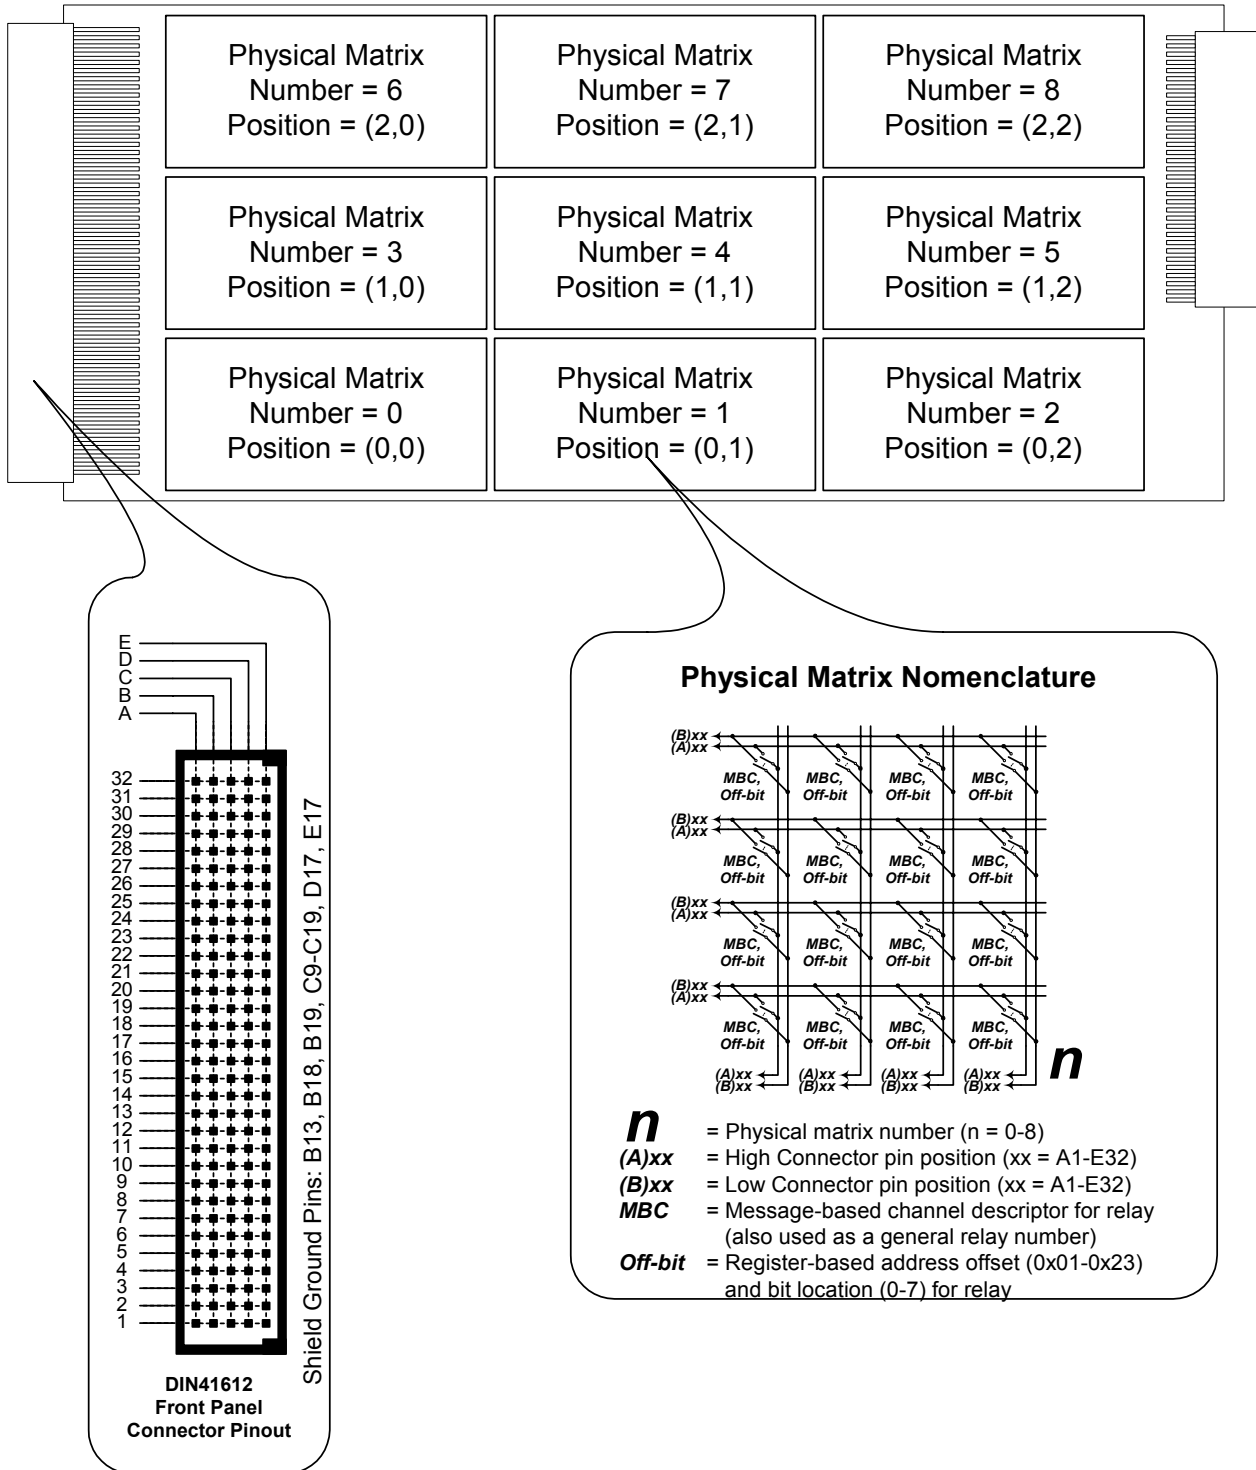
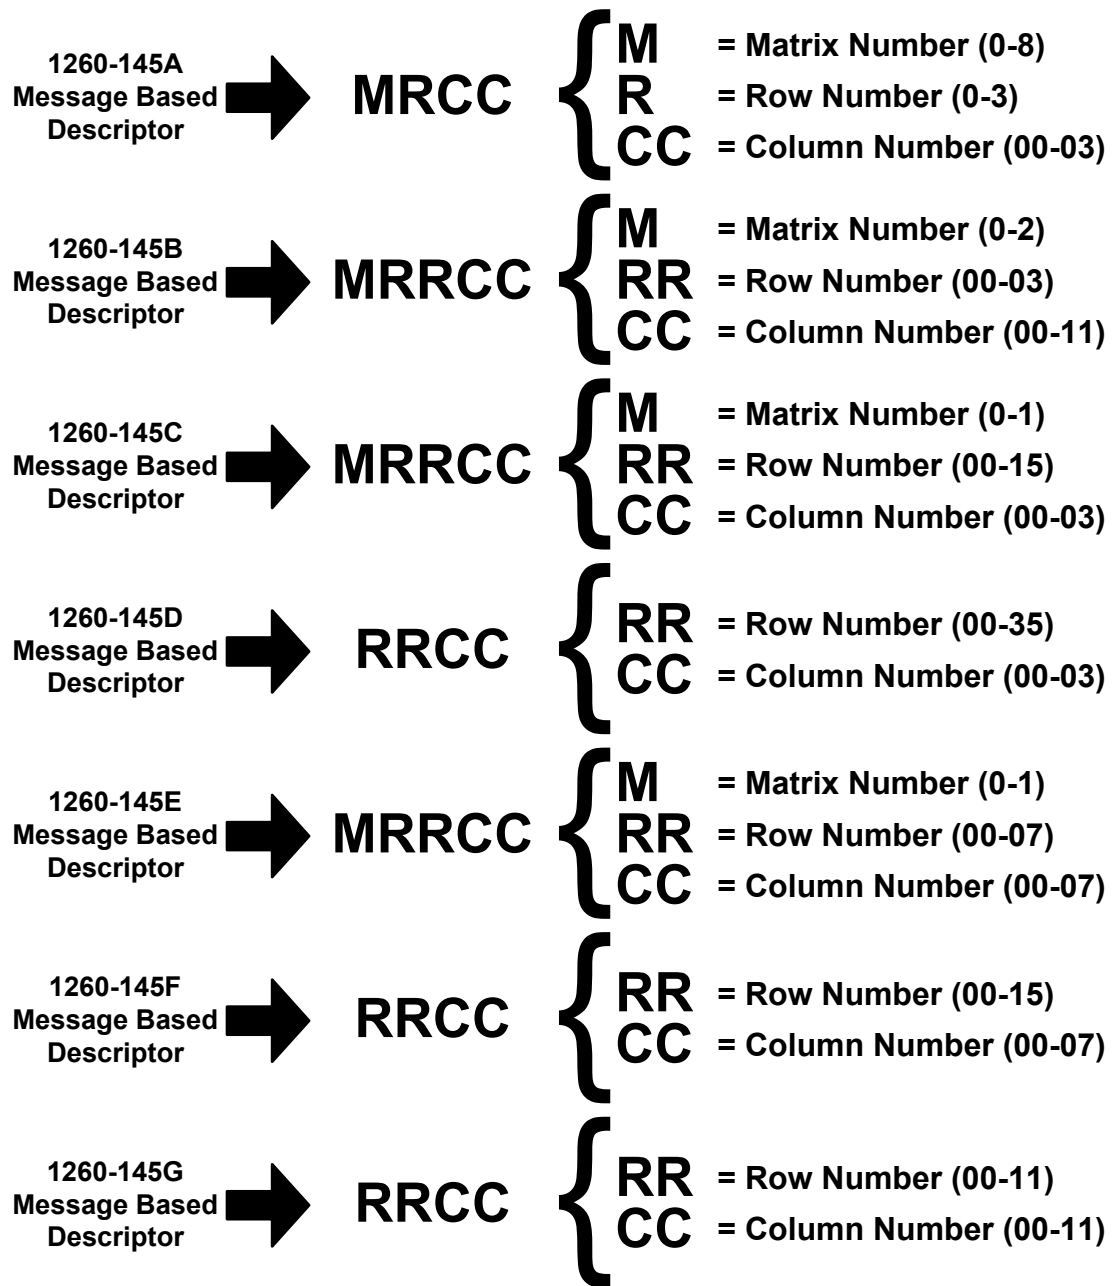
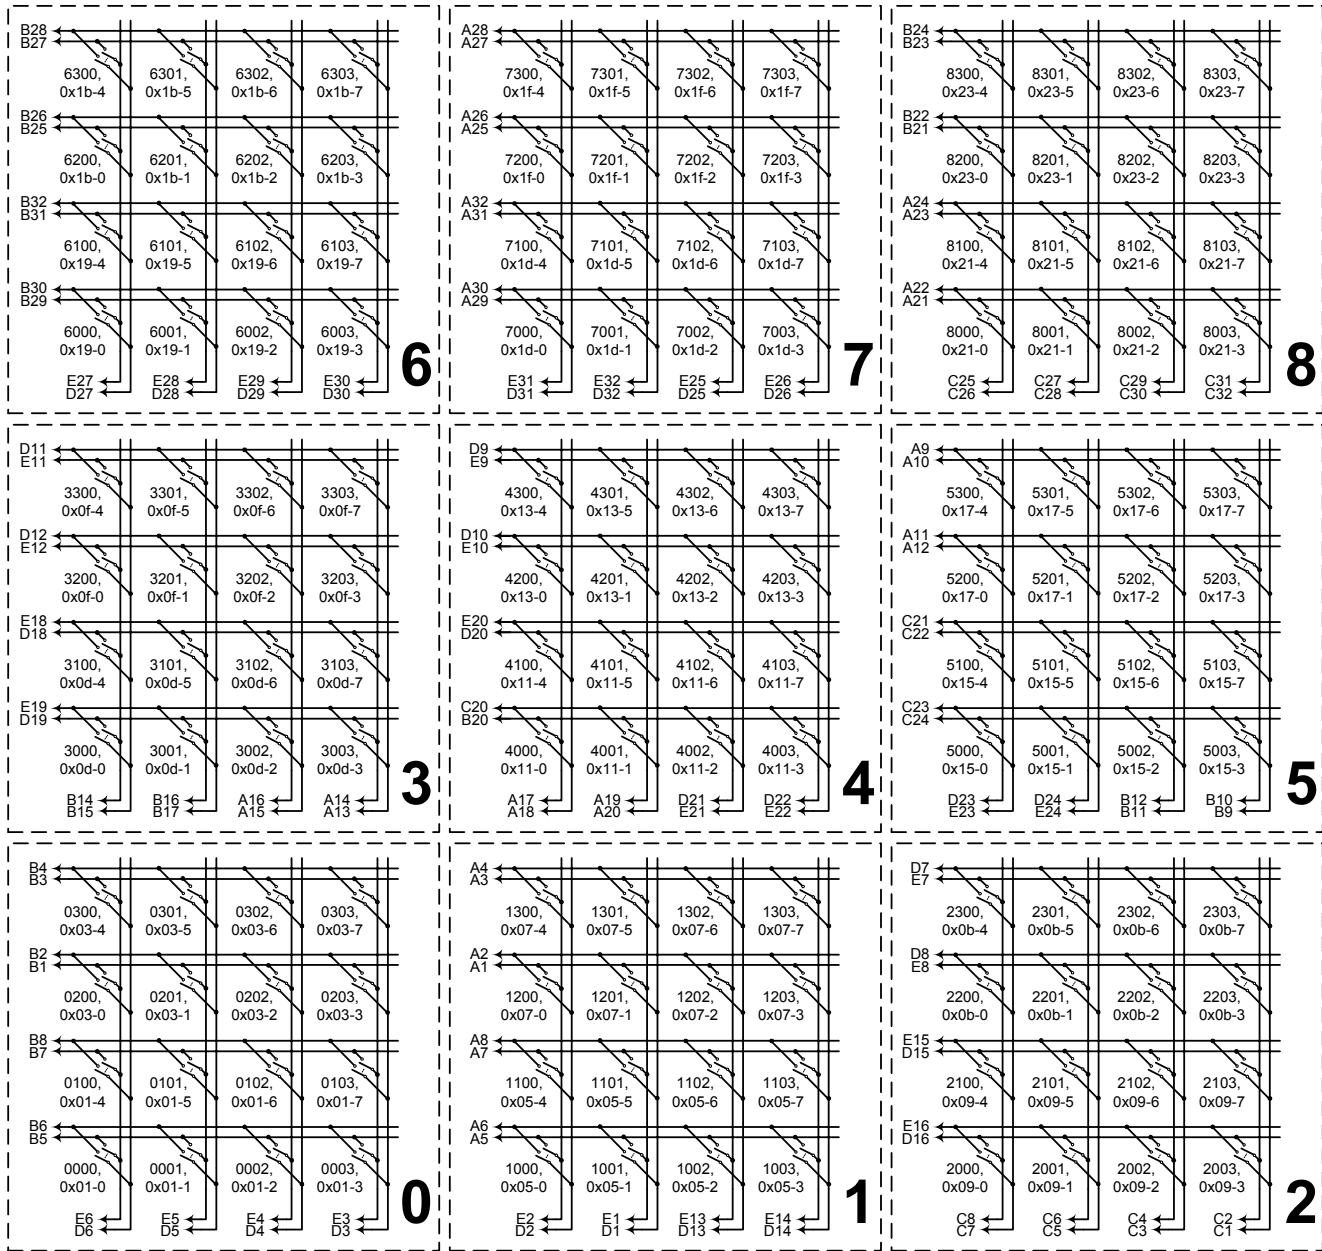

Figure 3-3, Numbering Nomenclature for all 1260-145 Variants
Figure 3-4, Message-Based Channel Descriptor to Physical Switch Orientation
Figure 3-5, 1260-145A Connector/Channel Organization
- <channel> is the 1260-145 relay to operate. This number can be obtained for a given card and a given relay by referring to **Figure 3-3** and one of the applicable card types illustrated in **Figures 3-5** through **3-11**. These figures provide a message-based channel descriptor (*MBC*) for each unique relay on any 1260-145 card.
The message-based descriptors (*MBC*) provided in **Figures 3-5**
Figure 3-4 identifies for each 1260-145 variant how to interpret the message-based descriptor to determine these parameters.
The control registers for Adapt-a-Switch plug-ins and conventional 1260-Series modules are always on odd-numbered A24 addresses. This number can be obtained for a given card and a given relay by referring to **Figure 3-3** and one of the applicable card types illustrated in **Figures 3-5** through **3-11**. These figures provide a register-based address offset and bit position (**Off-bit**) for each unique relay on any 1260-145 card. Once this offset is known, the absolute address where data is to be written or read from is simply assembled by adding the base address to the offset:
The message-based descriptors (*MBC*) provided in **Figures 3-5** through **3-11** are not directly relative to register-based operation. They do, however, serve a secondary purpose in register-based operation. In addition to specifying an exact relay (i.e. relay 1000), the syntax of the message-based descriptor indicates which matrix the relay belongs to, and the column and row numbers which intersect the relay position. **Figure 3-4** identifies for each 1260-145 variant how to interpret the message-based descriptor to determine these parameters.